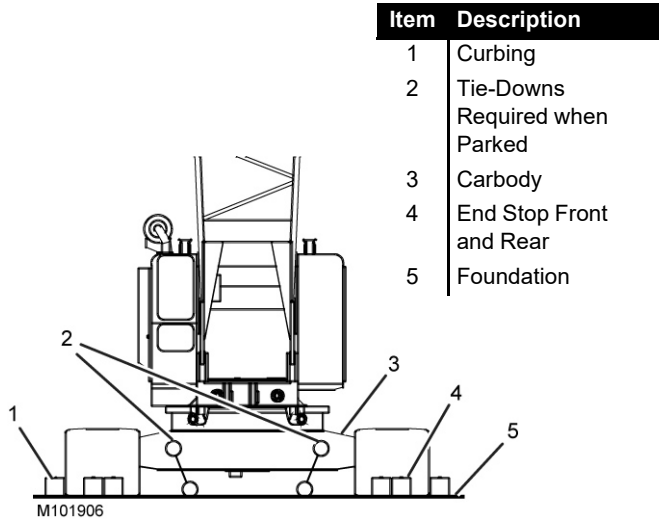

Figure 2-9. Crawler-Mounted Crane
2. Crawler-mounted crane working on a timbered area of the barge, ship, or floating platform with the crawlers restrained by curbing and end stops (Figure 2-9). When not working, the crane carbody is anchored with tie-downs to the foundation. **Traveling with load is not permitted.**